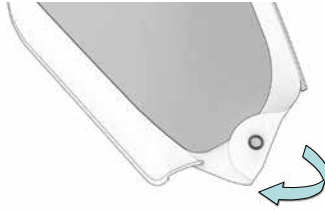

Fig. 43
Close the snap fasteners in the front area of the side panels. While doing so, turn the inside of the side panels outward (Fig. 43) and fasten it to the inside of the centre section ③. This will ensure that rain always runs off to the outside and does not flow into the transport box.